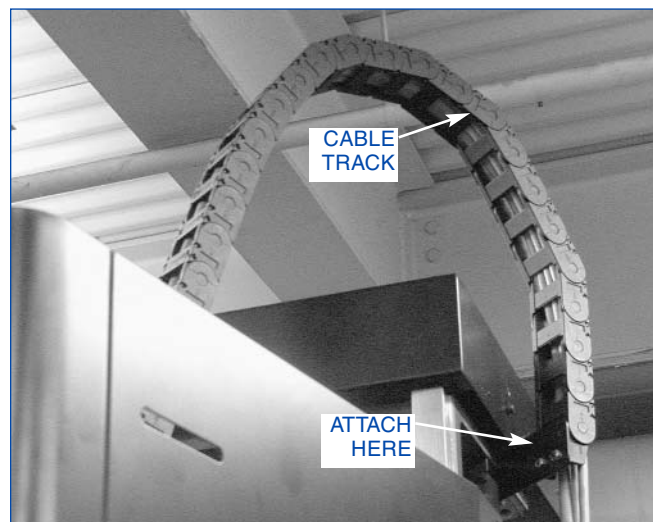

FIGURE 1-5, Cable Track
13. ATTENTION - The Cable Track has been disconnected from column for shipping purposes. Reattach Cable Track to top of column using bolt and washer supplied (see Figure 1-5).